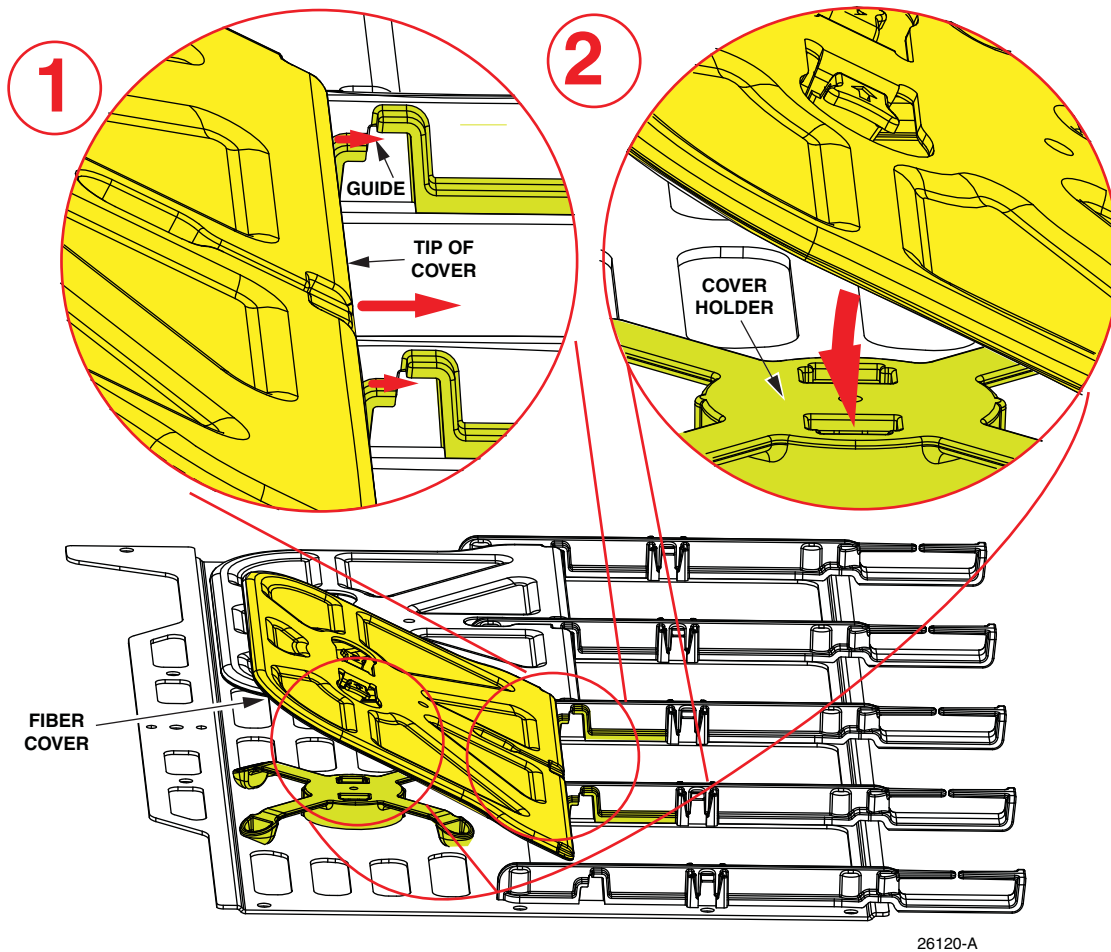

Figure 22. Re-Installing Fiber Cover
1. Align the fiber cover with its home location and tilt the cover at about a 45 degree angle and position the tip of the cover within the guides indicated in Figure 22 detail 1.
2. Swing down the cover until it presses into and locks within the cover holder indicated in Figure 22 detail 2.